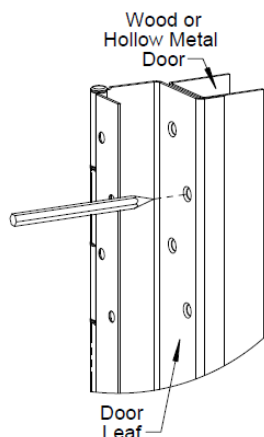

Fig. 2
1. Place the hinge door leaf on the edge of the door. Position the top of the hinge flush with the top of the door. (Fig. 2)